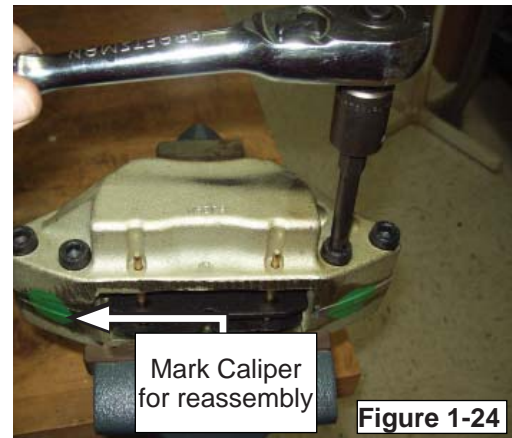

Figure 1-24
- Remove calipers as instructed in "Brake Disc and Pad Replacement" section of this bulletin. Remove the pad retaining pins and remove the brake pads (FIGURE 1-24).
- Place the caliper in a vise and mark the caliper halves and separators for reassembly (FIGURE 1-24).
- Remove the four caliper capscrews (FIGURE 1-24).